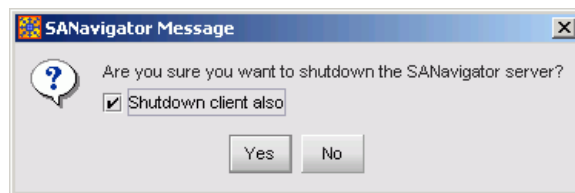

Figure 3-44 SANavigator or EFCM Message Dialog Box
- a. Select *Shutdown* from the *SAN* menu. A *SANavigator* or *EFCM Message* dialog box displays (Figure 3-44).